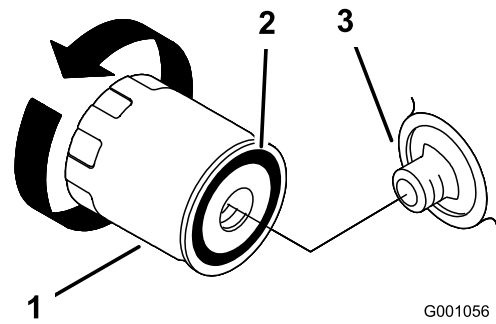
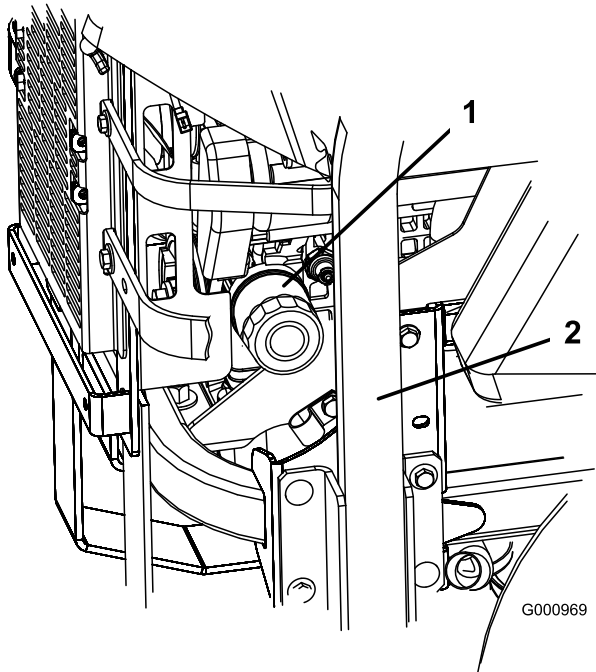

Figure 45
Figure 44
3. Turn the filter counterclockwise to remove it (Figure 44 and Figure 45).